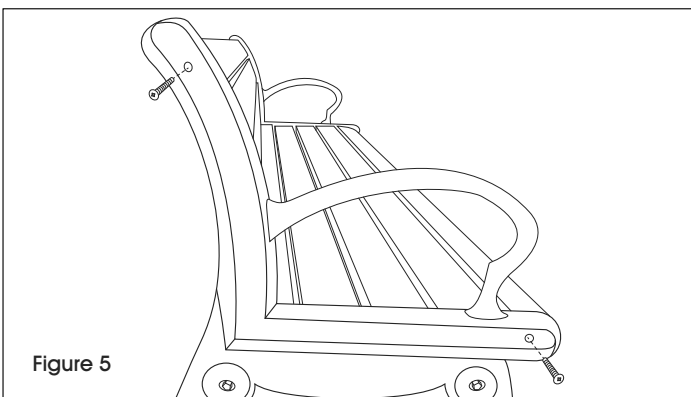

Figure 5
8. Using a drill with Phillips head bit, attach the 1/2" screws through the pre-drilled holes of the side frames into the two rounded edge planks. These planks are located at the top of the backrest and at the front of the seat. (See Figure 5)